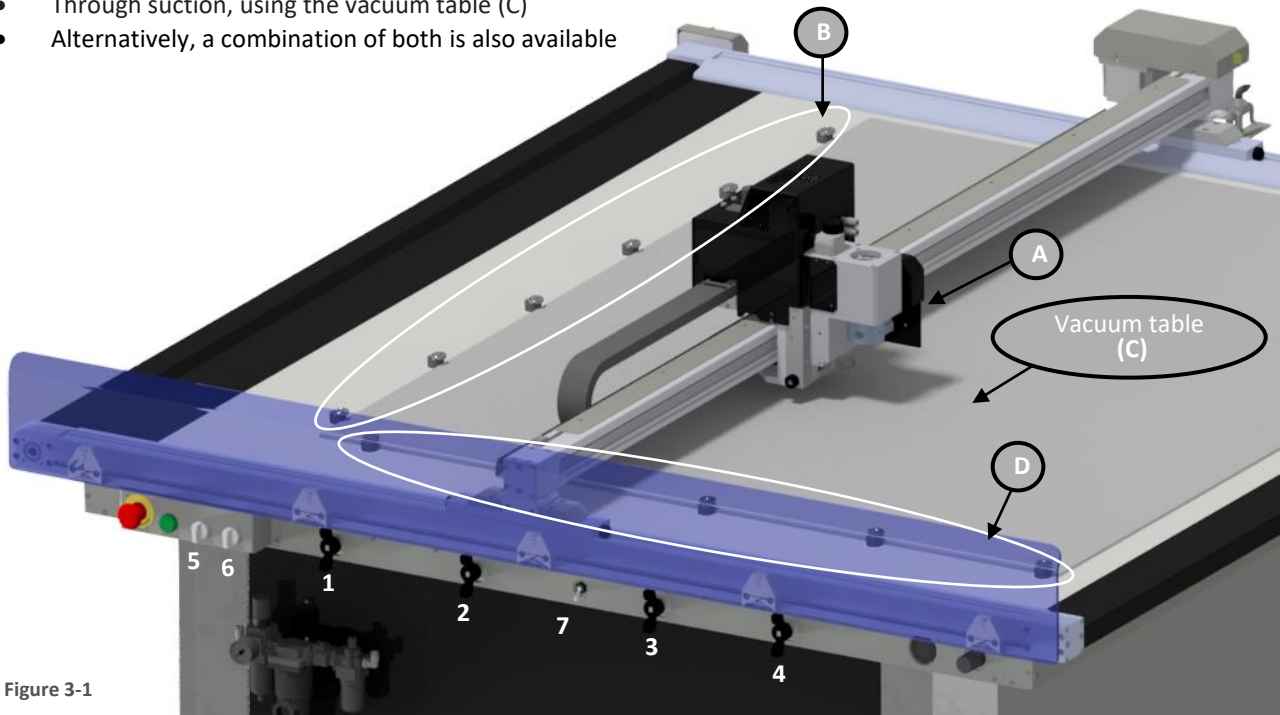

Figure 3-1
Invicta is equipped with a camera (A) Figure 3-1 for printing crop mark detection (not available for AP version).